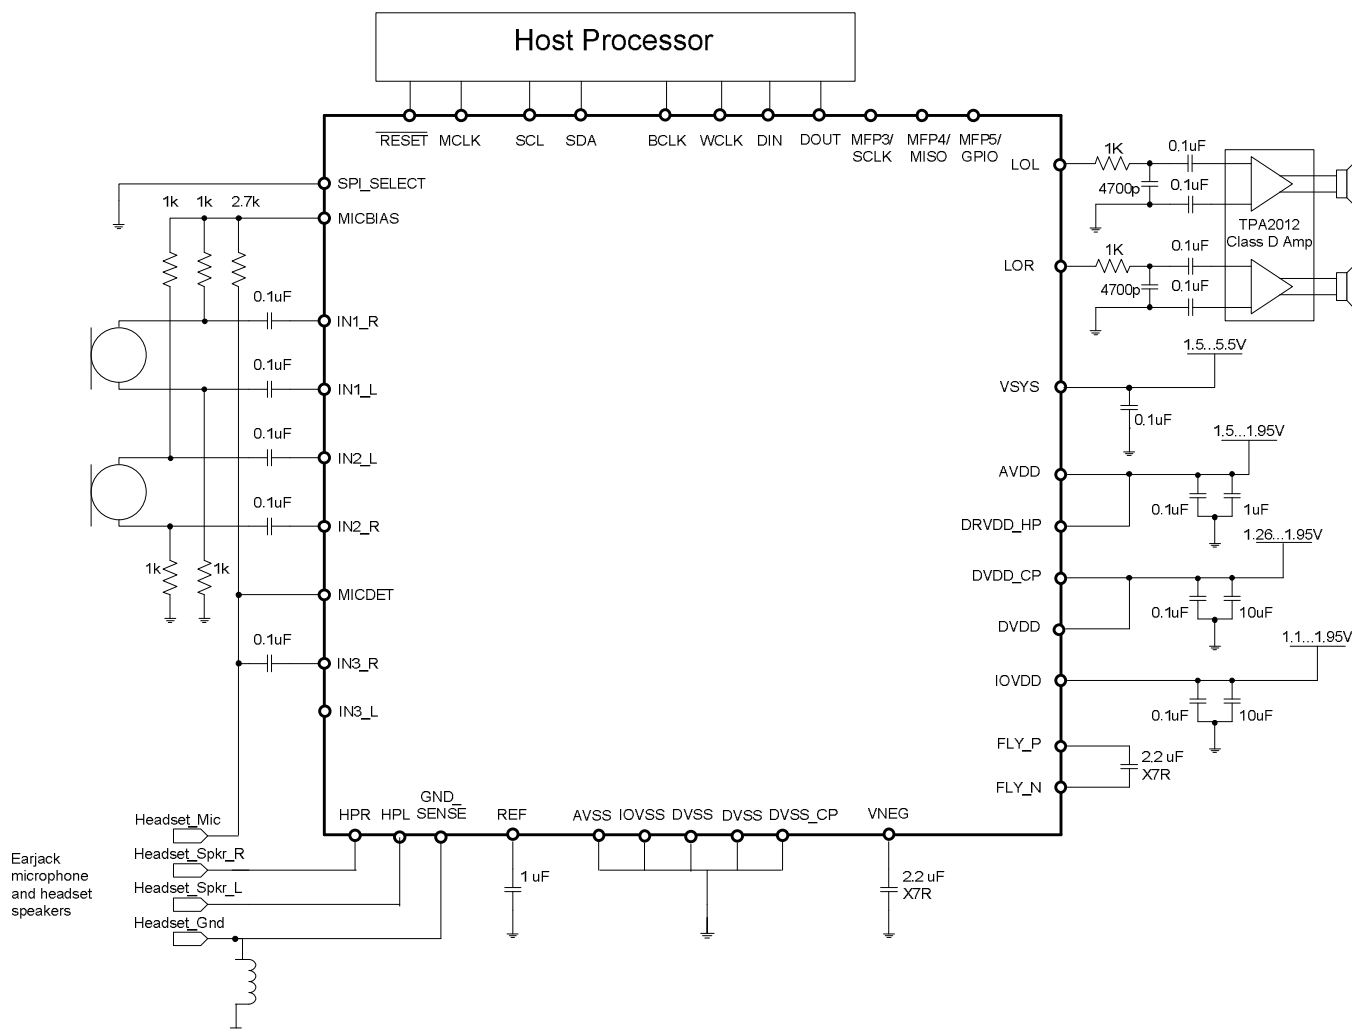

Figure 21. Typical Circuit Configuration
Figure 21 shows a typical circuit configuration for a system using the TLV320AIC3206.
Refer to Figure 21 for recommendations on decoupling capacitors.
- The decoupling capacitors for the power supplies should be placed close to the device terminals. Figure 21 shows the recommended decoupling capacitors for the TLV320AIC3206.